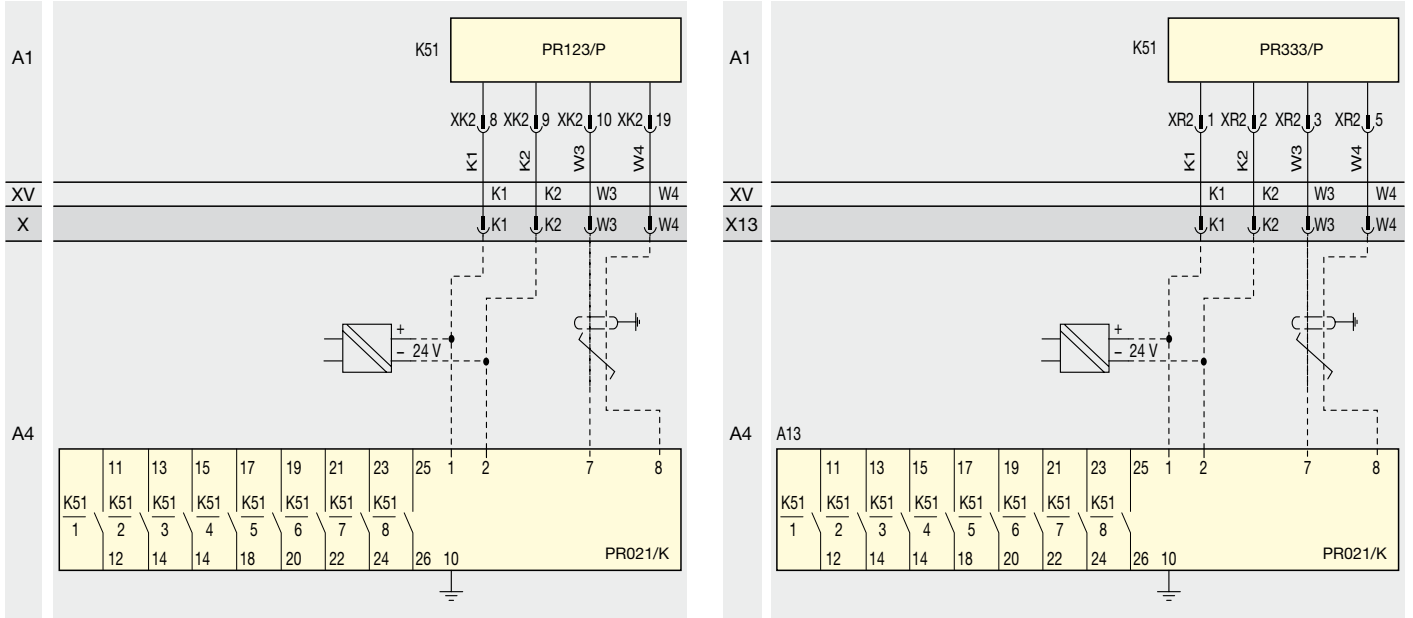

Figure 9 – PR021/K signalling unit
- to apply and set the signalling module as PR120/K, PR021/K or LD030 DO in order to make available one contact to command the opening of the MV circuit-breaker. This contact must be programmed so that the contact, normally open, shall close when the trip unit of the LV circuit-breaker detects the fault thanks to the external G protection. The circuit diagrams below show the contacts available in the PR120/K (Figure 7-8), PR021/K (Figure 9) and LD030 DO (Figure 10) signalling units;